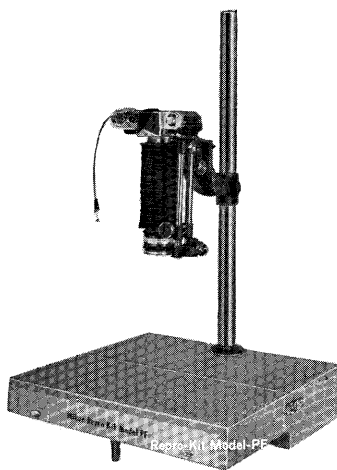

Fig. 11
- The Bellows Focusing Attachment may be used on the Repro-Kit Model PF (Fig. 11).